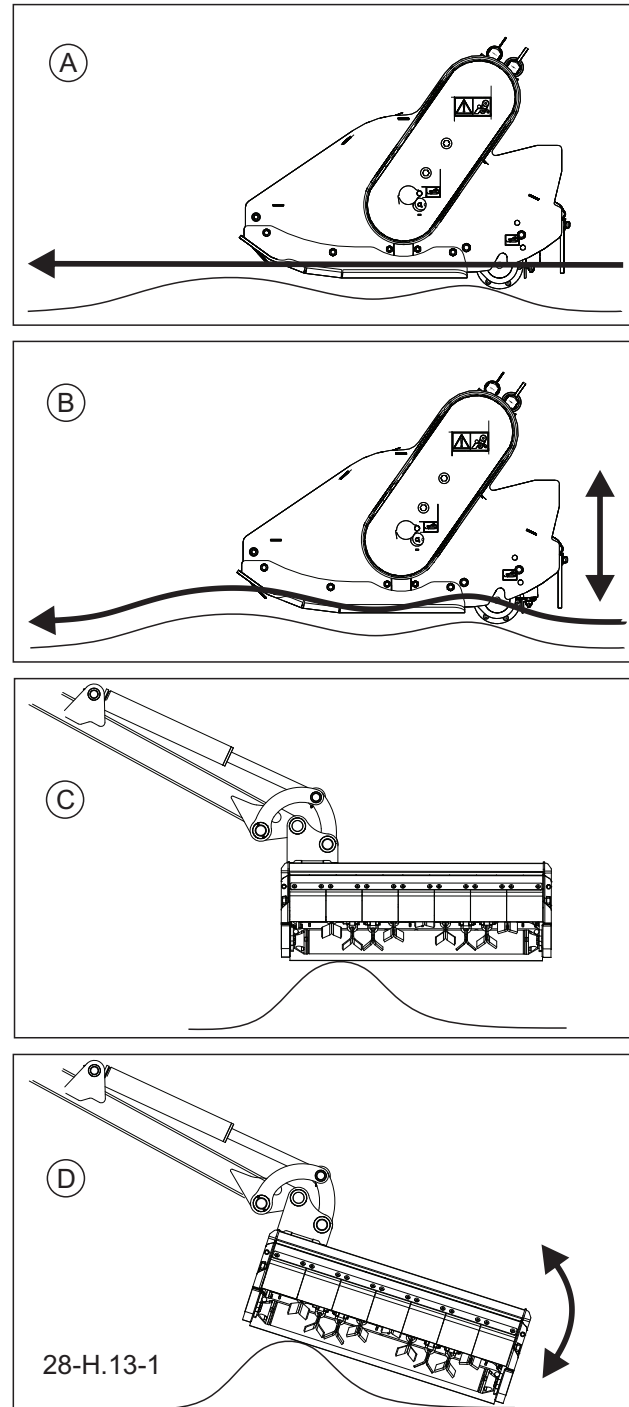

Figure 4.12 Arm shock absorbing function and head tilt floating position function.
setting to the ground irregularities (B) (FIGURE 4.12).